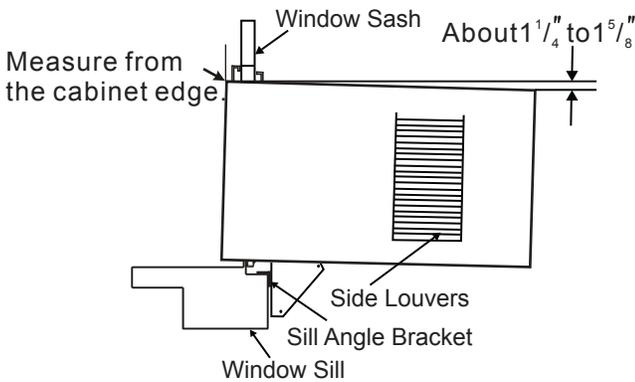

Fig. 14
**NOTE:** Check that air conditioner is tilted back about  $1\frac{1}{4}$ " to  $1\frac{5}{8}$ " (tilted about  $3^\circ$  to  $4^\circ$  downward to the outside). After proper installation, condensate should not drain from the overflow drain hole during normal use, correct the slope otherwise (Fig. 14).